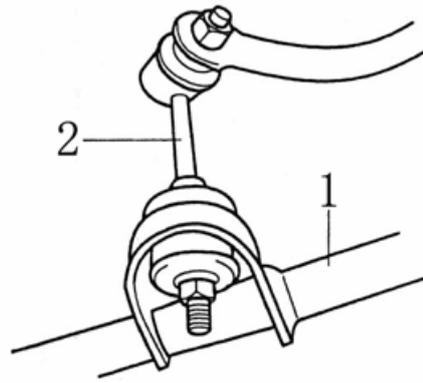

FIG.14-19
- (3) Remove the nut connecting tension bar and stabilizer link (FIG.14-19).
- (4) After installing stabilizer link to tension rod, (FIG.14-19), tighten nut to specified torque.